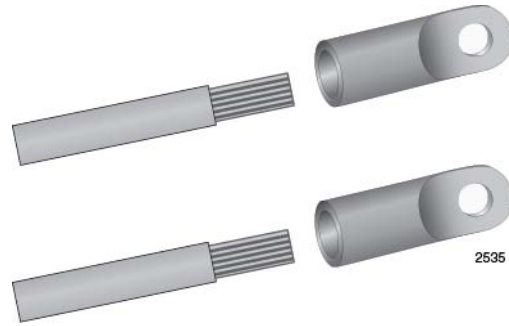

Figure 125. Attaching the Power Wires to the Power Terminal Lugs
2. Insert the power wires into the terminals included with the power supply and use a crimping tool to secure the wires to the terminals. See Figure 125 on page 169.